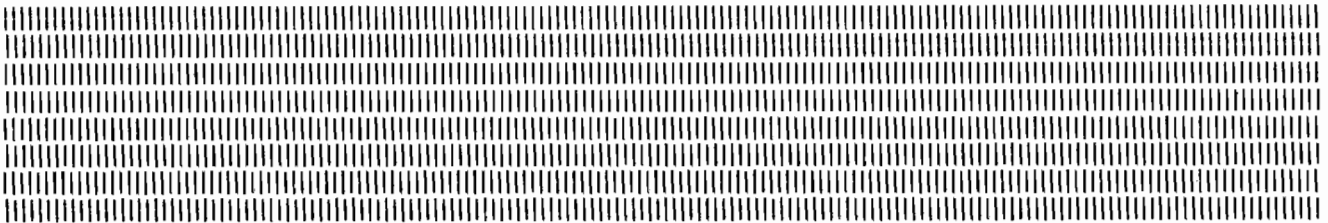

Figure 5-2. Misalignment Example.
3. Push the thermal compensator upward to loosen the belt slightly. Figure 5-2 shows the result of a loosely adjusted belt. Notice the printed, vertical bars do not line up.